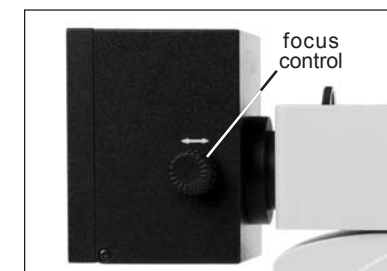
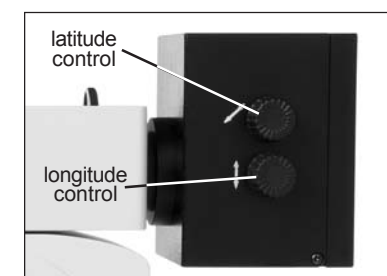

Figure 20
Figure 21
9. Adjust the three reflected illuminator alignment knobs located on the illuminator housing in order to properly align the lamp. The knob on the left (figure 20) focuses the lamp transversely (Z-axis) while the upper right knob adjusts for latitudinal (X-axis) and the lower for longitudinal (Y-axis) movement (figure 21).